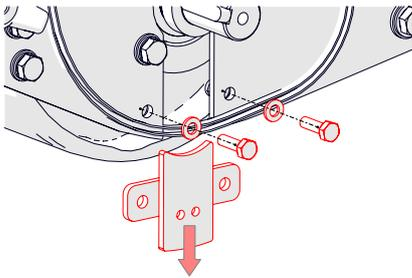

Fig.20G - Remove the RH cover plate.
10. Remove the two hex screws below the pulley [10 mm spanner], attaching the metal cover plate (Fig.20G).